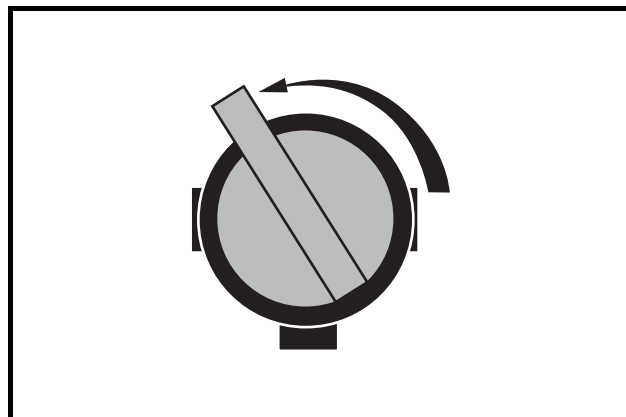
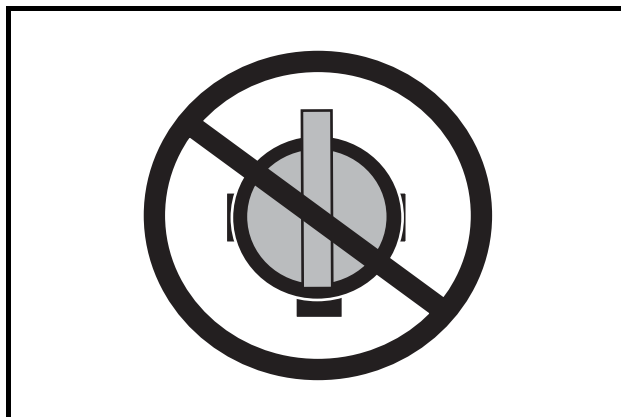

Figure 12 Fuel Shut-off Valve – Full Open (ON) Position
Figure 13 Fuel Shut-off Valve – Partially Closed Position
3. Completely open the fuel shut-off valve (**Figure 12**). Make sure the valve is fully open. A partially closed fuel shut-off valve (**Figure 13**) combined with the use of the choke can result in a fouled spark plug and engine failure.